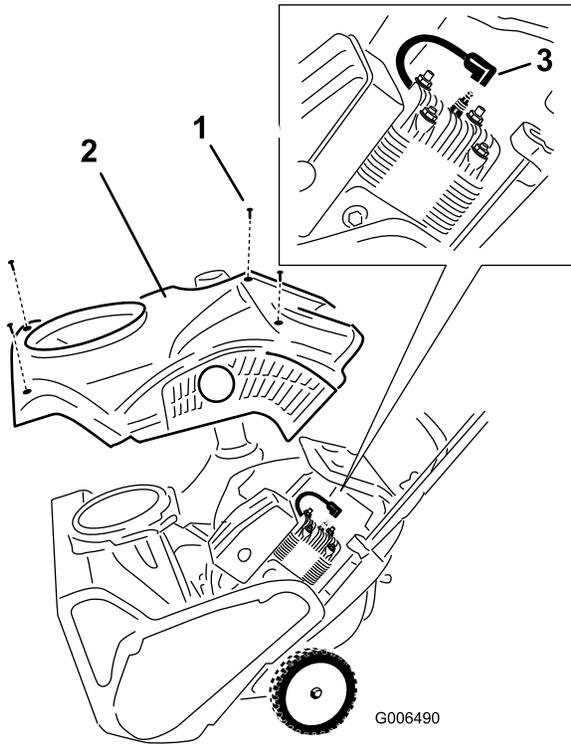

**Figure 24**
- Remove the discharge chute, the discharge chute handle, and the chute seal by removing the 3 large screws and one small screw (Figure 24).
- Large screw (3)
- Remove the 4 screws that secure the shroud (Figure 24).